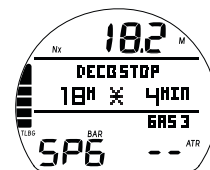

Fig. 53 - DV2 MAIN
- > Once within 10 FT (3 M) of and below the required Stop Depth, the full Stop icon (smaller Up and Down Arrows with Stop Bar) will be displayed solid (Fig. 53).